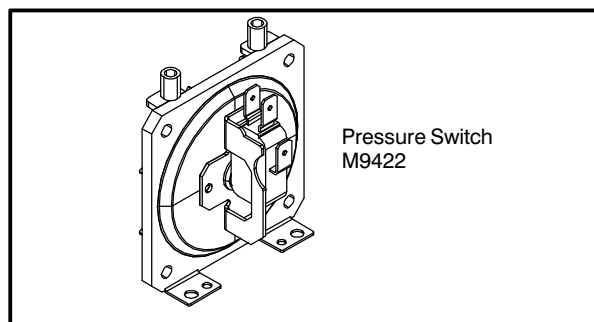

FIGURE 3
1. If the oven contains pressure switch M9422 (see FIGURE 3), remove and discard.